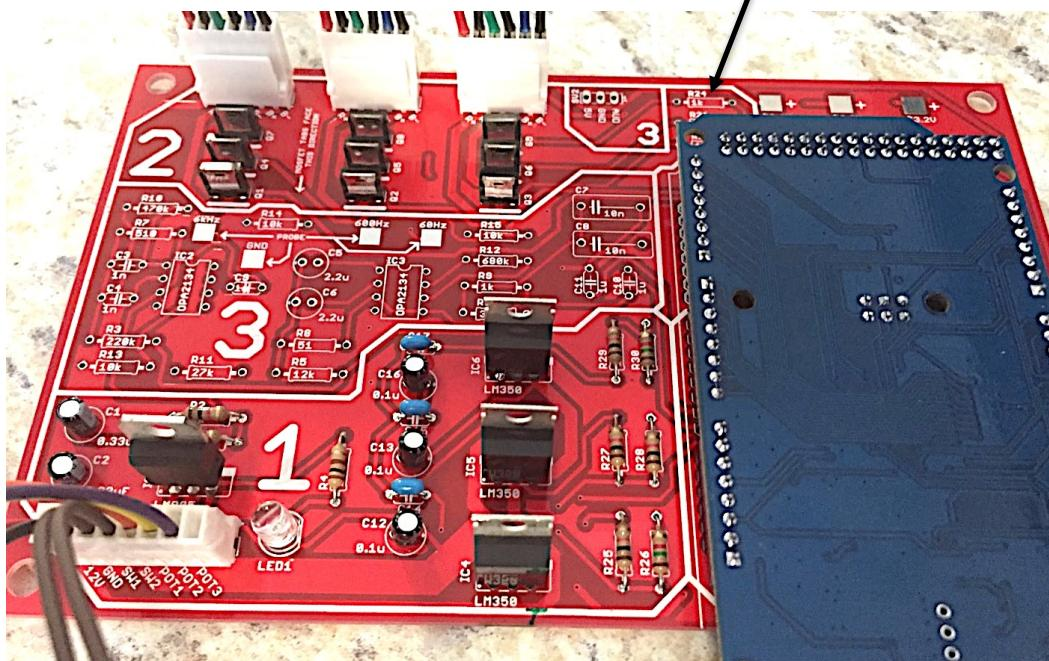

Figure 12: LED connector hardware, and the programmed Arduino Mega connected to the PWB.
STEP 2C. In this step, solder the remaining components in region 2 in the top-left area of the PWB. Make certain that the nine transistors are facing the correct direction! (See Figures 12 and 15)
STEP 2F. Connecting your Arduino to your PWB. Connect LEDs and crimped connector hardware to the board and preload code (your own or the Prism code provided to you) to the Arduino Mega. Plug the Arduino Mega to the board. The result should look something like Figure 12. **ENSURE THAT THE ARDUINO CONNECTIONS LINE UP WITH THE HEADERS (SEE FIGURE 13).**